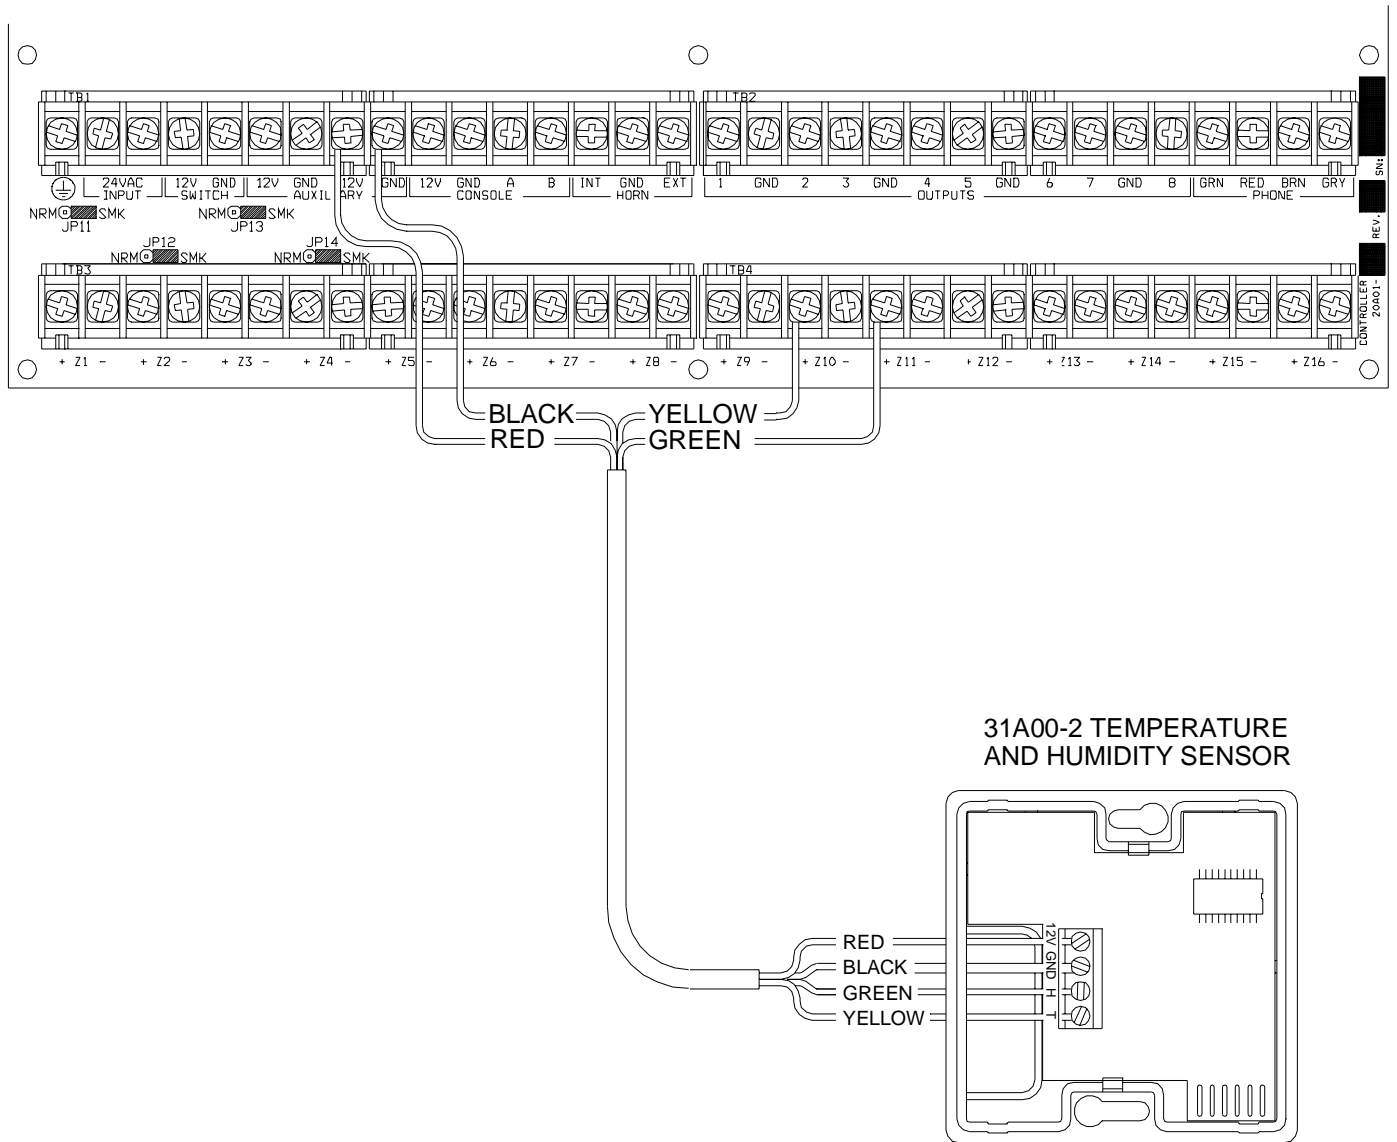

FIGURE 1 – MODEL 31A00-2 CONNECTIONS
2. Mount the Model 31A00-2 using the supplied wall anchors and screws. Orient the Model 31A00-2 as shown in FIGURE 1 for the optimal temperature reading. Connect as shown in FIGURE 1.